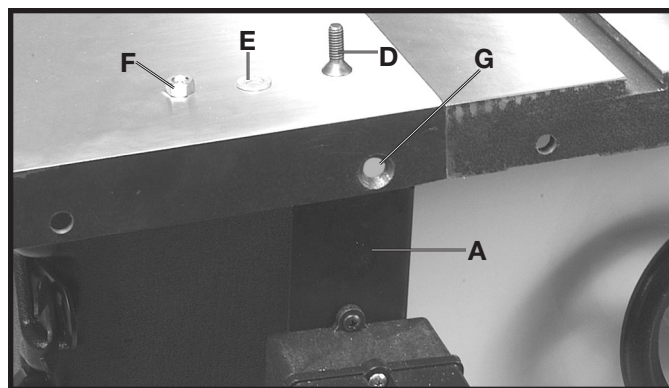

Fig. 12
2. Loosely assemble switch and switch bracket (A) Fig. 12, to the inside front lip of extension wing. Insert a 5/16-18x1" flat head screw (D) through hole (G), place a 5/16" flat washer (E) on screw and secure with a 5/16" hex nut (F).